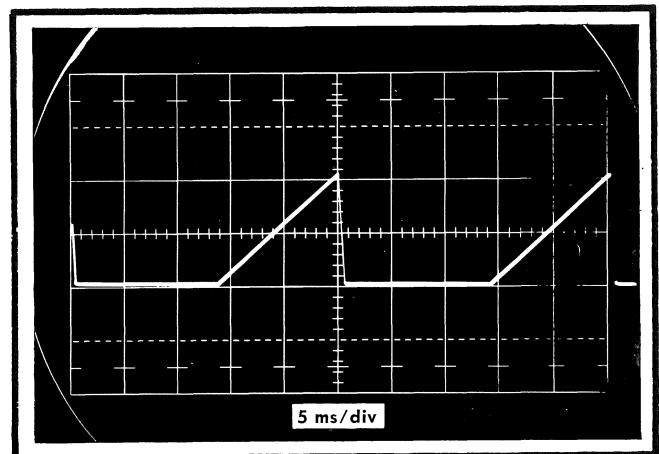

Fig. 7-10. Typical CRT display of ramp duration for step 6.
- j. Obtain a stable display and check that the ramp duration is approximately 12 ms; Fig. 7-10.